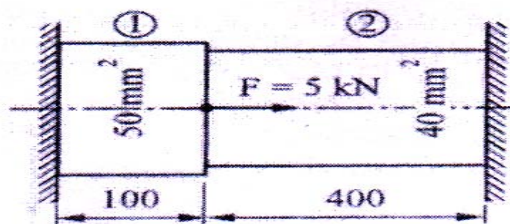

Figure 2
- b)** A stepped bar is as shown in the figure 2 determine the displacement in each of the sections. Given $E_1 = 70 \text{ GPa}$ and $E_2 = 200 \text{ GPa}$ [12]